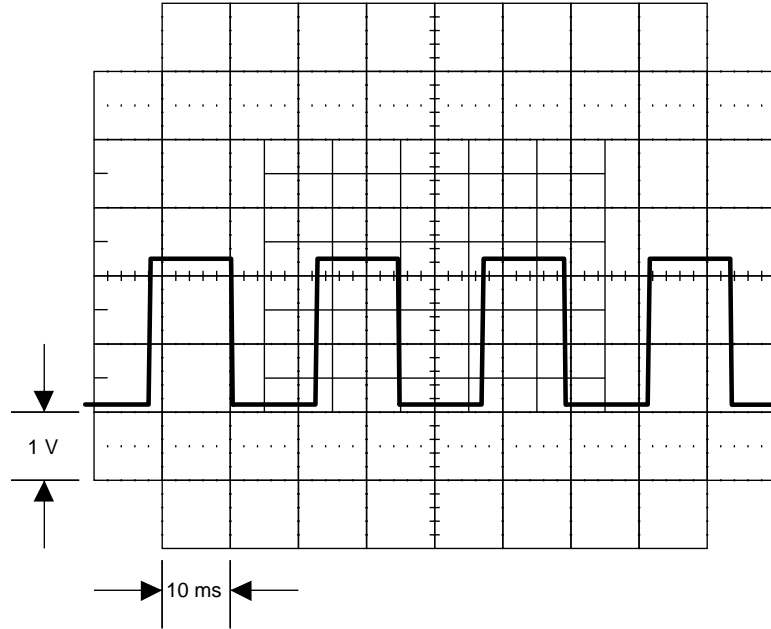

Figure 5-26. Waveform at Pin 7 of U12
11. Check CH2 FLOATING. Connect an oscilloscope to U12 pin 7 (common to TP3) and set it to 10V/div at 2 ms/div. Verify it displays a signal similar to Figure 5-26.
The duty cycle may differ from Figure 5-26. At this time just verify the amplitude and a sharp rise and fall time. If a failure is detected, check U12 and its associated components.